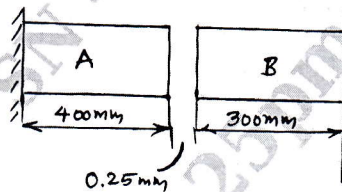

Fig Q2(b)
b. At room temperature the gap between bar A and bar B is shown in Fig Q2(b) is 0.25mm, what are the stresses induced in the bars. If the temperature rise is 35°C.